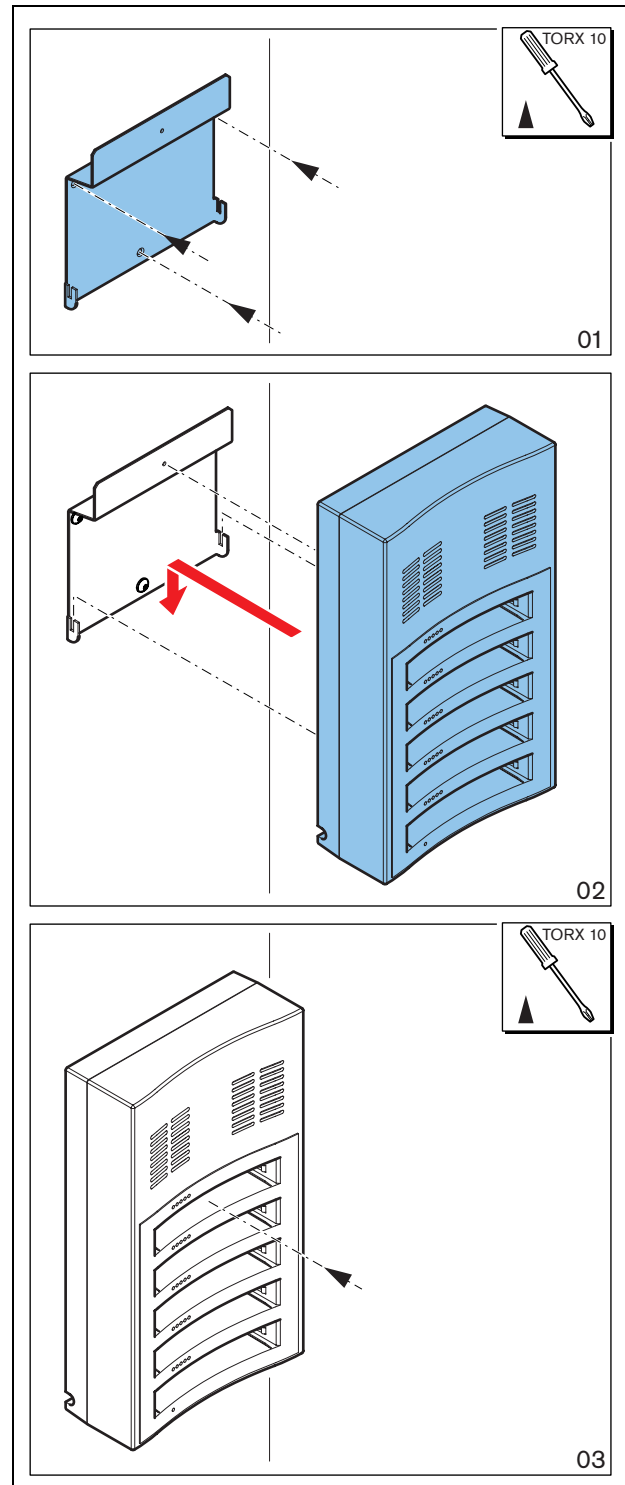

figure 17.2: Installation, wall
You can use the bracket to attach the battery charger to a wall. Refer to figure 17.2.
- The vertical distance between two brackets is at least 340 mm (refer to d1 in figure 17.2).
- The horizontal distance between two brackets is at least 195 mm (refer to d2 in figure 17.2).